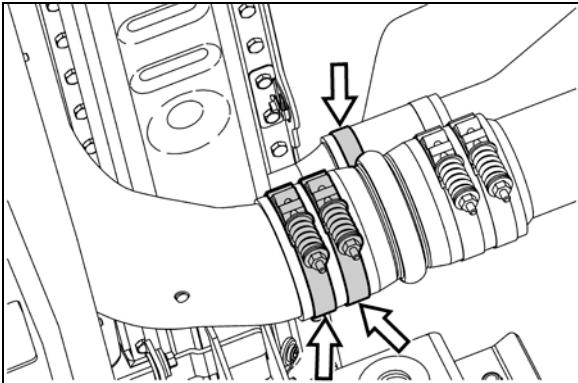

FIGURE 26: REAR COOLANT &amp; CHARGE AIR PIPES
11. Remove rear coolant and charge air hose clamps then break hoses loose (Figure 26).